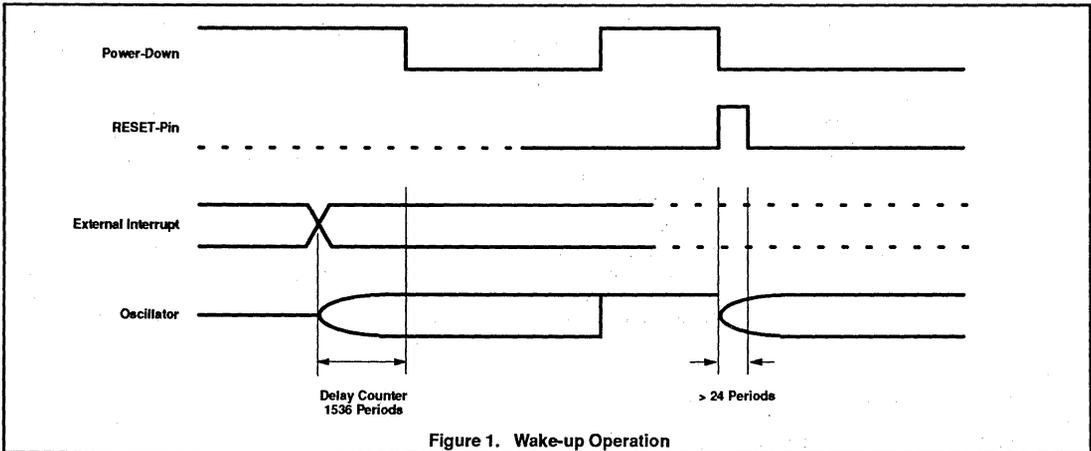

Figure 1. Wake-up Operation
To be able to wake up the part from the power-down state with an external interrupt, both the PD and IDL bits of the PCON register must be set when entering the power-down mode. If only the PD bit is set, the power-down mode will only be terminated by a hardware reset. With both bits set, an interrupt on any of the additional external interrupts, INT2-INT9, will cause the part to wake up. To ensure that the oscillator is stable before the controller restarts, the internal clock will remain inactive for 1536 oscillator periods after the interrupt is detected. After this, the PD flag will be reset, and the part will be in the idle mode, and the interrupt will be handled in the normal way. Figure 1 shows the different oscillator delays
The pins of port 1, port 2, and port 3 may be individually configured with one of the following port options (see Figure 1):
- Option 1: Standard Port**—quasi-bidirectional I/O with pull-up. The strong booster pull-up p1 is turned on for two oscillator periods after a 0-to-1 transition in the port latch. See Figure 1(a).
- Option 2: Open Drain**—quasi-bidirectional I/O with n-channel open drain output. Use as an output requires the connection of an external pull-up resistor. See Figure 1(b).
- Option 3: Push-Pull**—output with drive capability in both polarities. Under this option, pins can only be used as outputs. See Figure 1(c).
Option 2: Open drain—quasi-bidirectional I/O with n-channel open drain output. Use as an output requires the connection of an external pull-up resistor. See Figure 1(c).